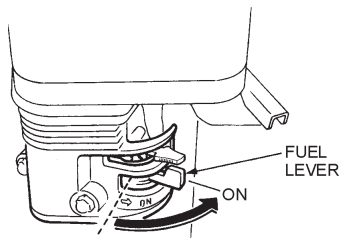

Figure 9. Engine Fuel Valve Lever (ON Position)
1. Place the engine **fuel valve lever** (Figure 9) to the "ON" position.